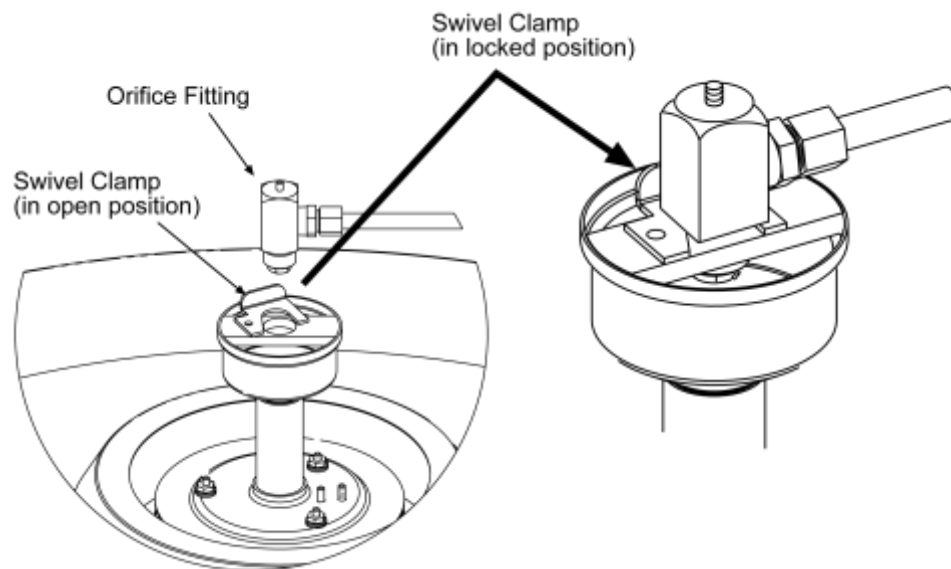

FIGURE 4
9. Insert the Orifice Fitting into the burner base as shown in Figure 4. Rotate the swivel clamp until it locks into the groove of the orifice fitting.